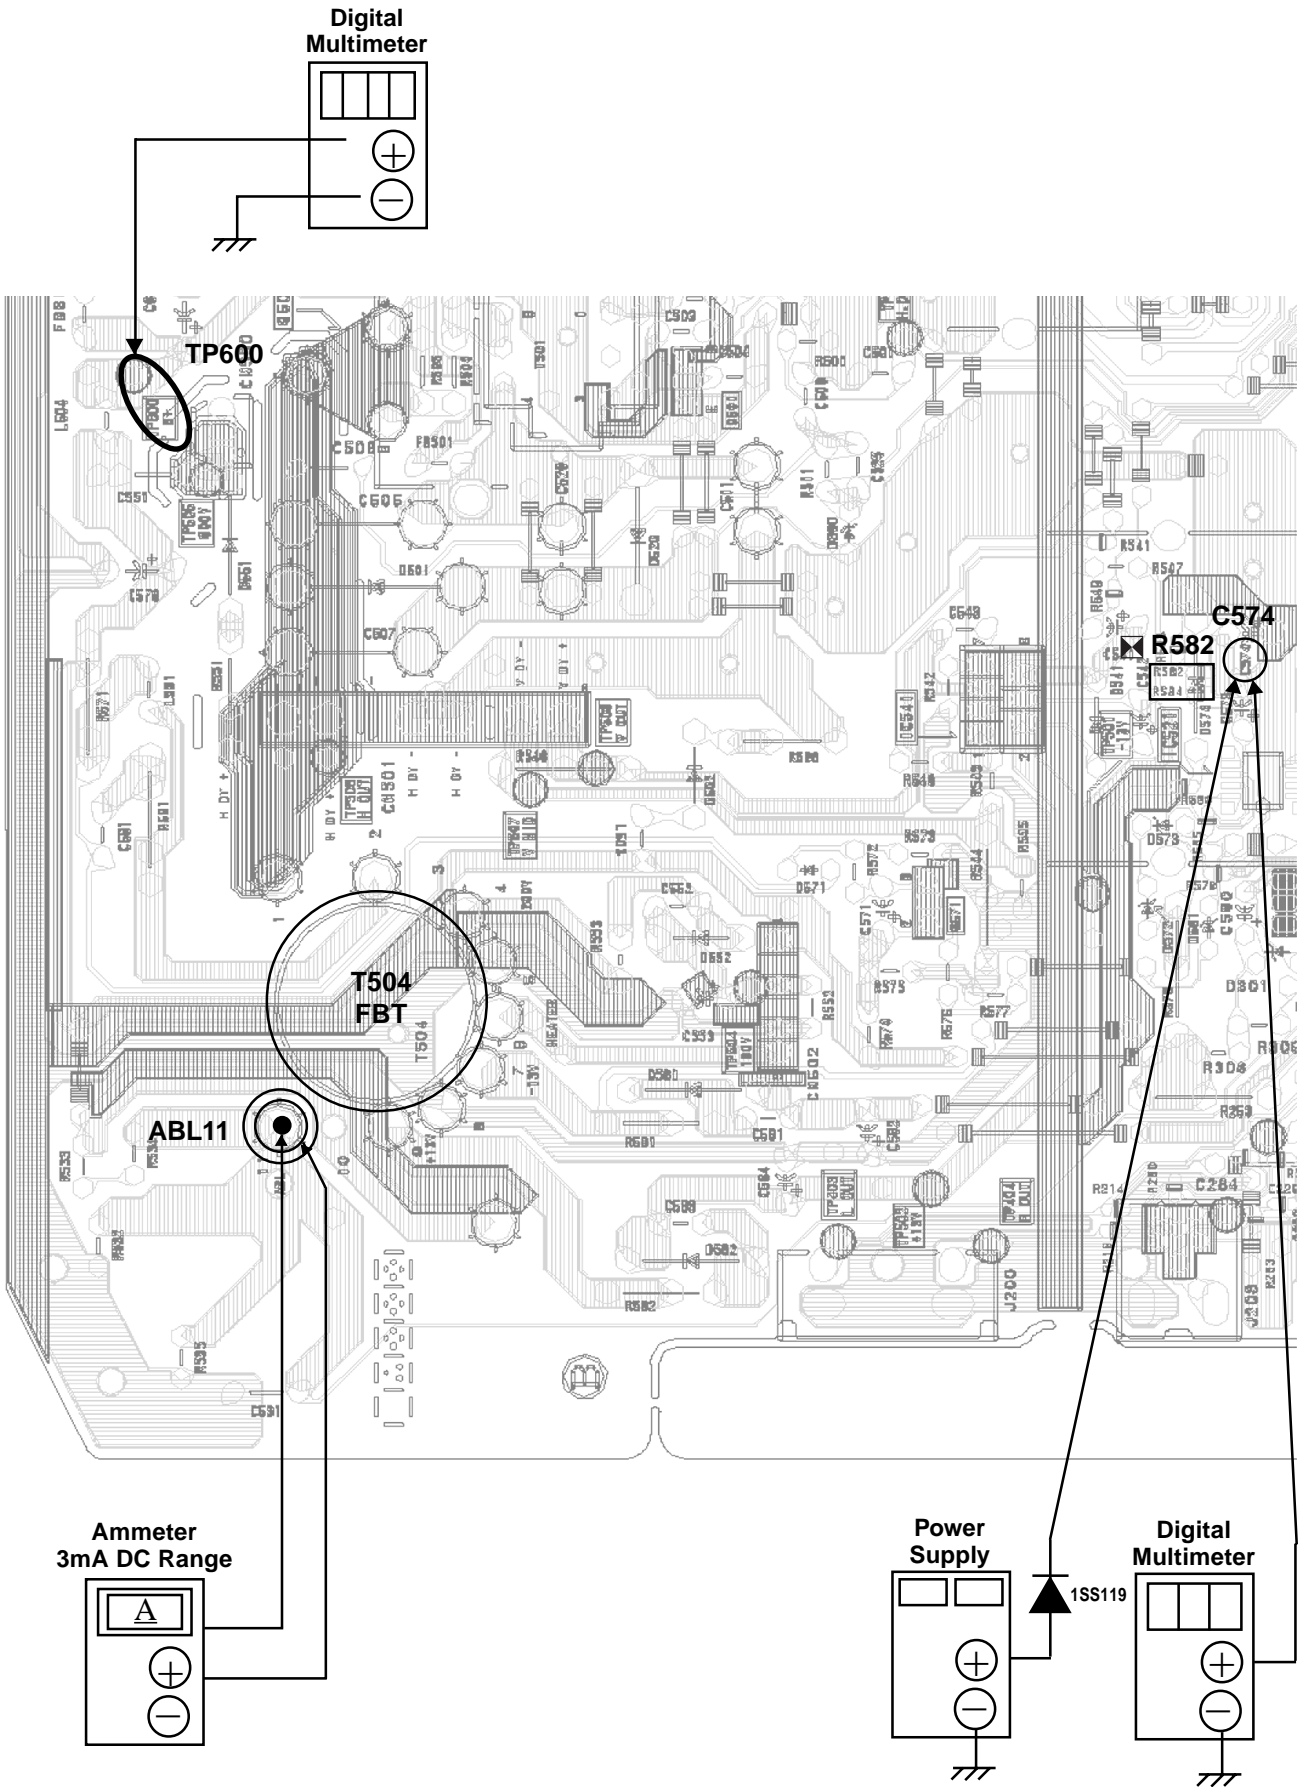

Figure 1
1. Connect the current meter between Pin 11 of the FBT (T504) and the PCB land where Pin 11 would normally attach. (See Figure 1 on the next page.)